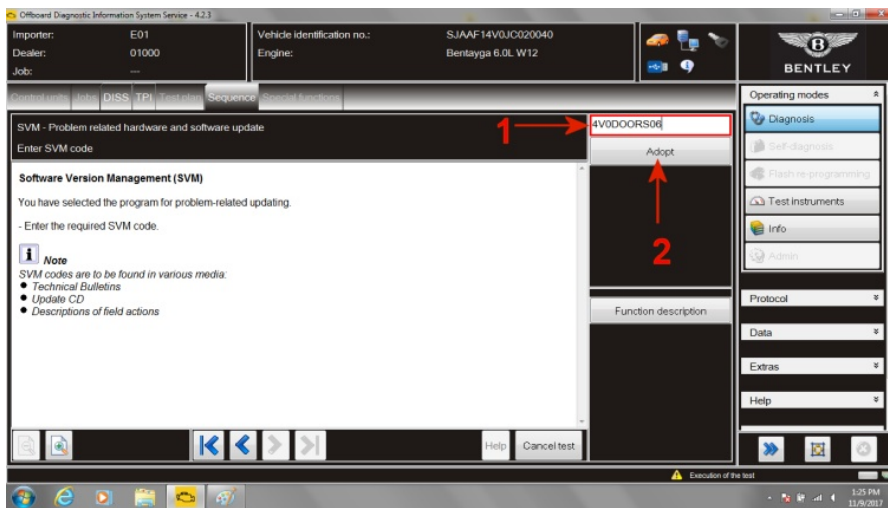

Figure 2
- At SVM process screen enter (1) the specific SVM code **4V0DOORS06** (NOTE: the word DOORS in the SVM code is all letters) and then Adopt (2) (see Figure 2)